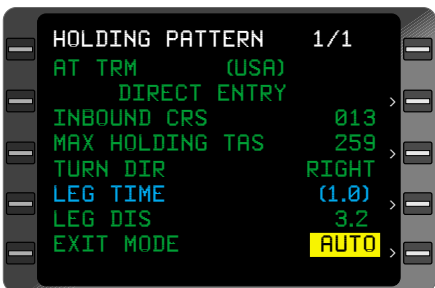

Figure 3-108
*NOTE: When the leg distance is entered, the leg time will be computed as indicated by parentheses and vice-versa. (Figure 3-108)*